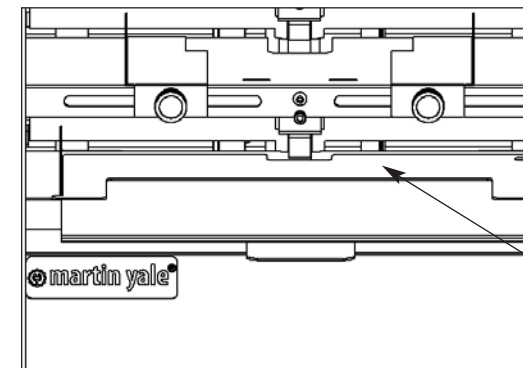

Figure 7
3. Use the 11.0" or 8-1/2" top plates on top of the stack. (Fig. 7)